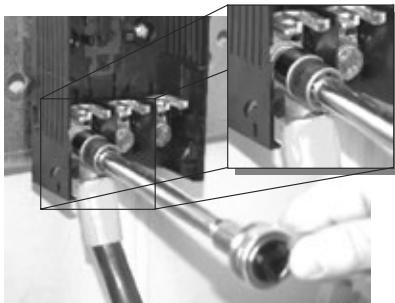

Figure 11
- Fix the conductors with M5 bolt (Figure 12) with torque of 3 Nm or fix the conductors according Figure 11 (M6 screw with torque of 3 Nm);